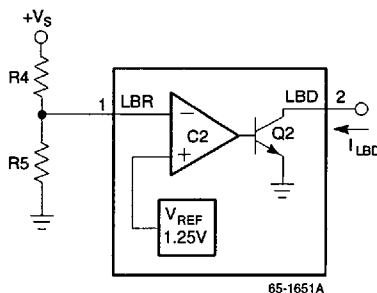

Figure 13. Low Battery Detector
*Caution: Use current limiting protection circuit for high values of C_F (Figure 13)
An open collector signal transistor Q2 with comparator C2 provides the designer with a method of signaling a display or computer whenever the battery voltage falls below a programmed level (see Figure 13). This level is determined by the +1.25V reference level and by the selection of two external resistors according to the equation:
| Draws excessive supply current on star-up. | Inductance value too low. Output frequency (FO) too low. Combination of low resistance inductor and high value filter capacitor — needs current limiting circuit (Figure 13). |